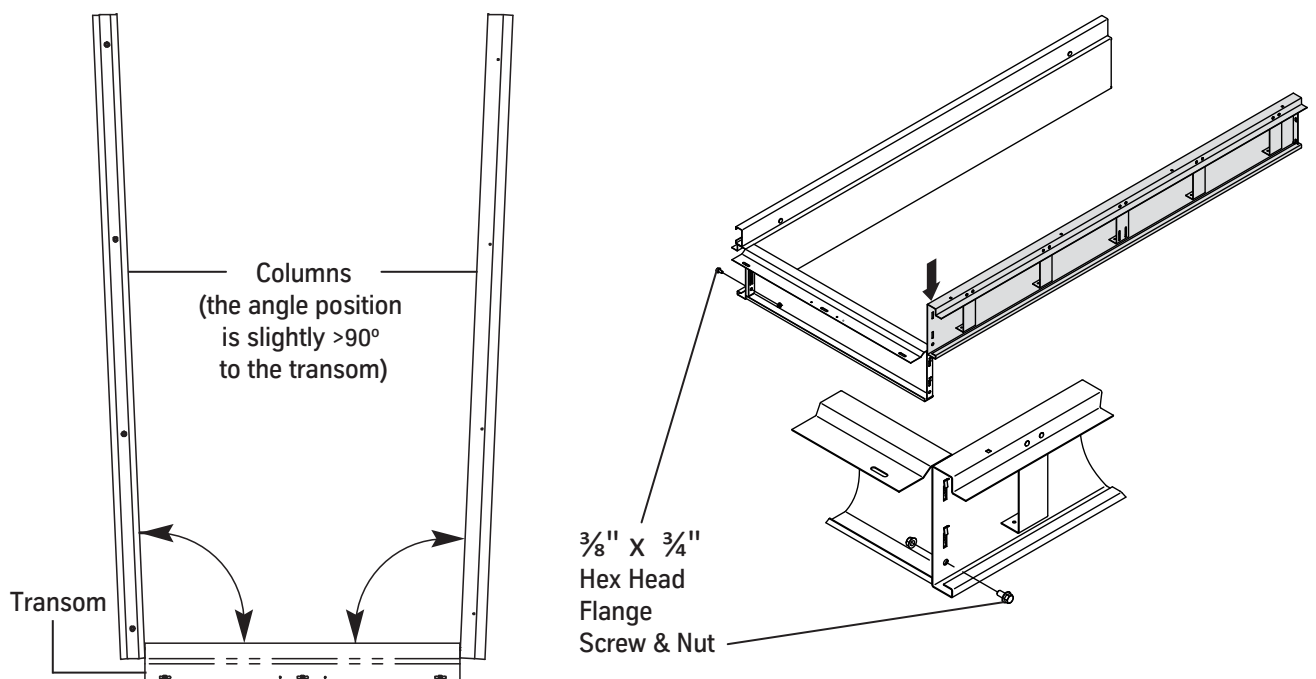

Figure 31 - Assemble the Frame
1. Place the entrance columns and transom face down, and position each column at a slight angle to the transom. See Figure 31.